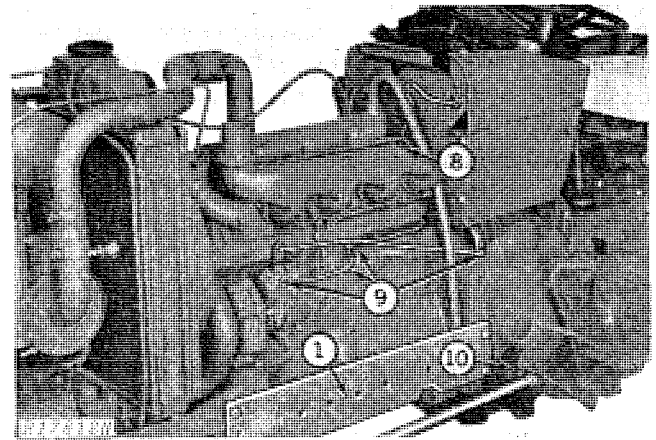

Fig. 2-Left-Hand Separation Procedures
7. Remove the two cowl-to-flywheel housing cap screws (Fig. 2).